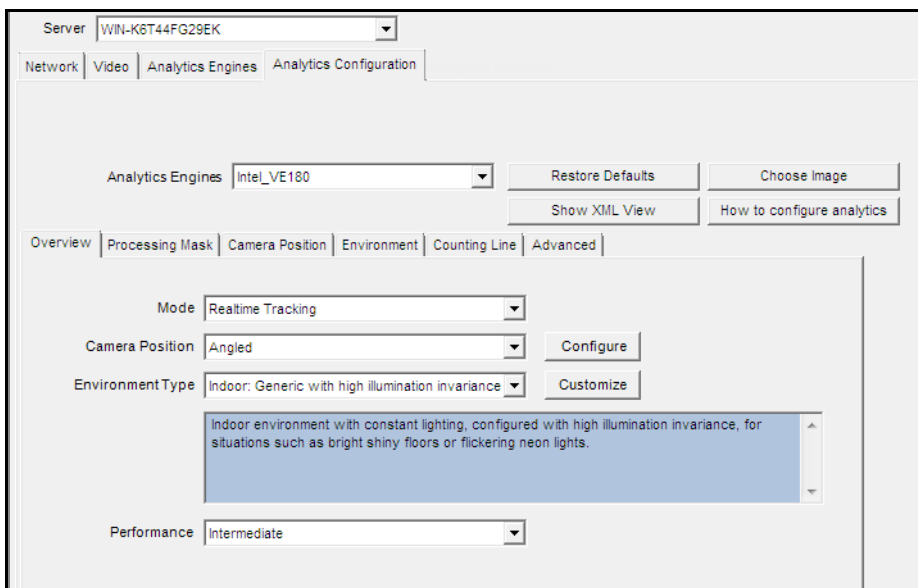

Figure 15. Analytics Configuration tab for VE180
5. Click the **Analytics Configuration** tab (Figure 15 on page 153). From the **Analytics Engines** drop-down list, select **Intel_VE180**.